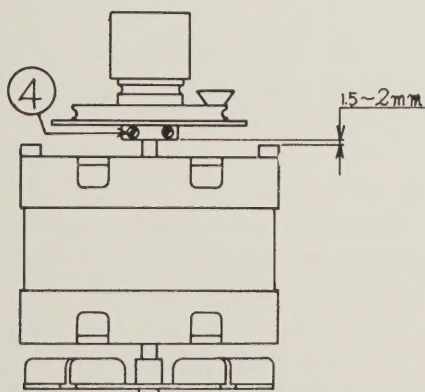

Fig. 11
- 1) Fix the motor pulley with the two setscrews (4) so the bottom surface of the motor pulley is 1.5 — 2mm above the motor mounting surface as shown in Fig. 11.
- 2) After mounting the motor on the chassis, check the capstan belt (5) can be shifted smoothly each time when the tape speed is changed. Also check that the capstan belt (5) is not in contact with the change rod (6) after the tape speed has been changed. If the tape speed cannot be changed properly or when the capstan belt is engaged with the change rod, loosen the screw (7) and adjust the height and position of the change rod (6).